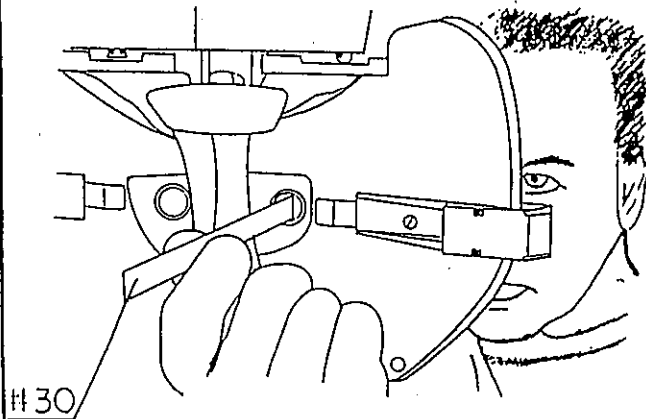

FIG. 7
- ⑤ Adjusting the cornea scale
4. When the scale reading is not 13.75 ~ 14.00mm loosen two screws CRs 2x3 (#31) and move the cornea focus cover (#32) to right and left to adjust the cornea scale. (See Figs. 7 and 8)
(Fig. 7)
3) Apply grease (001) to parts #31 through #36. (See Fig. 7)